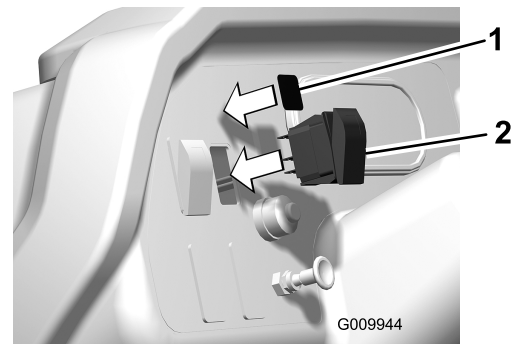

Figure 21
4. Locate the wire harness with the loop-back connector under the dash (Figure 21).
6. Plug the harness adapter into the harness connector and into the switch (Figure 21).